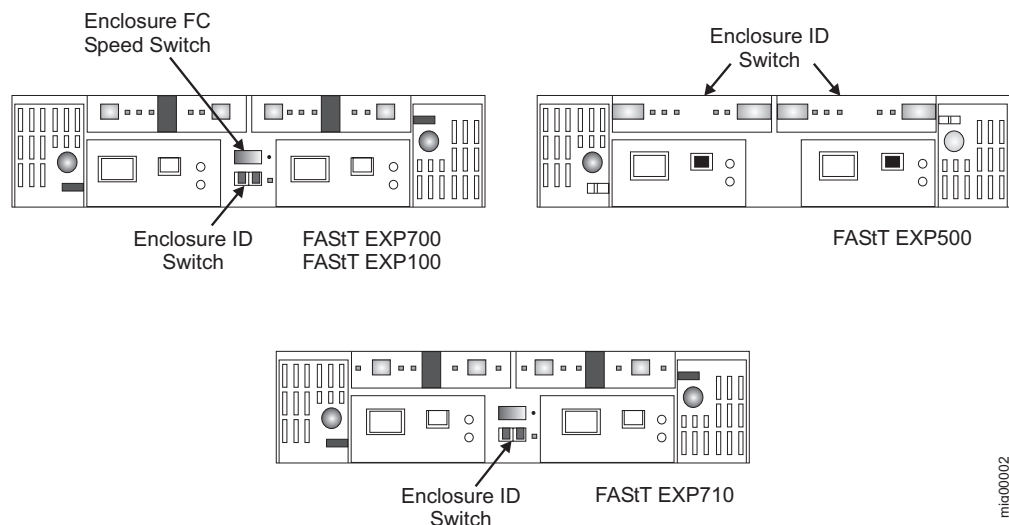

Figure 15. EXP100, EXP500, EXP700, and EXP710 enclosure ID and speed switches
- \_\_\_ Step 3. Set the enclosure ID of the additional storage expansion enclosures. Each drive enclosure in the DS4000 storage subsystem drive loop must have a unique drive enclosure ID. In a EXP500 storage expansion enclosure, there is an enclosure ID switch mounted on each of two ESM canisters. Set each ESM canister's enclosure ID switch in the EXP500 drive enclosure to the same unique number in the drive loop. In a EXP700 storage expansion enclosure, the only enclosure ID switch is mounted between the power supplies. See the appropriate *DS4000 storage expansion unit installation and user's guide* for additional information. Figure 15 illustrates the location of speed switches on the EXP100, EXP700, EXP710, and EXP500 storage enclosures.